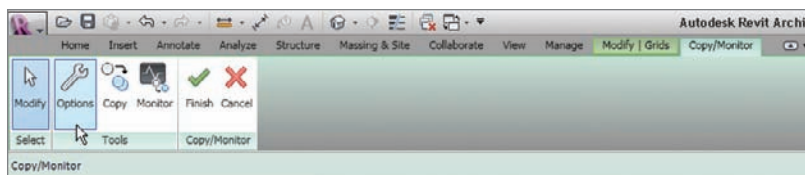

FIGURE 20.9 The Options button on the Tools panel of the Copy/Monitor tab
1. On the Copy/Monitor tab, click the Options button on the Tools panel, as shown in Figure 20.9.